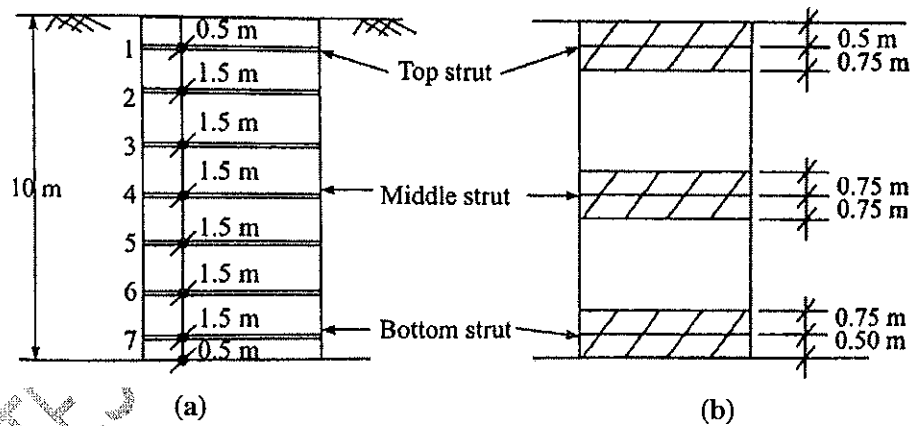

Fig. 1
1. A cut 10 m deep is excavated in sand ($\phi = 30^\circ$ and $\gamma = 17 \text{ kN/m}^3$) and is to be braced by sheeting and bracing system as shown in Fig. 1 (a). The top strut will be at 0.5 m below the G.L., followed by subsequent struts at every 1.5 m centre to centre in vertical direction. The spacing of struts along the cut is 3 m centre to centre. The influence zone for top, middle and bottom strut is shown in Fig. 1 (b). Compute the top, middle and bottom strut loads.